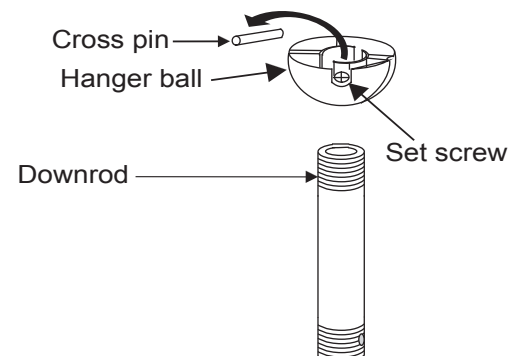

Fig. 8
Step 6. Remove the hanger ball from the downrod assembly by loosening the setscrew, removing the cross pin and turning the ball off the downrod. (Fig.8)